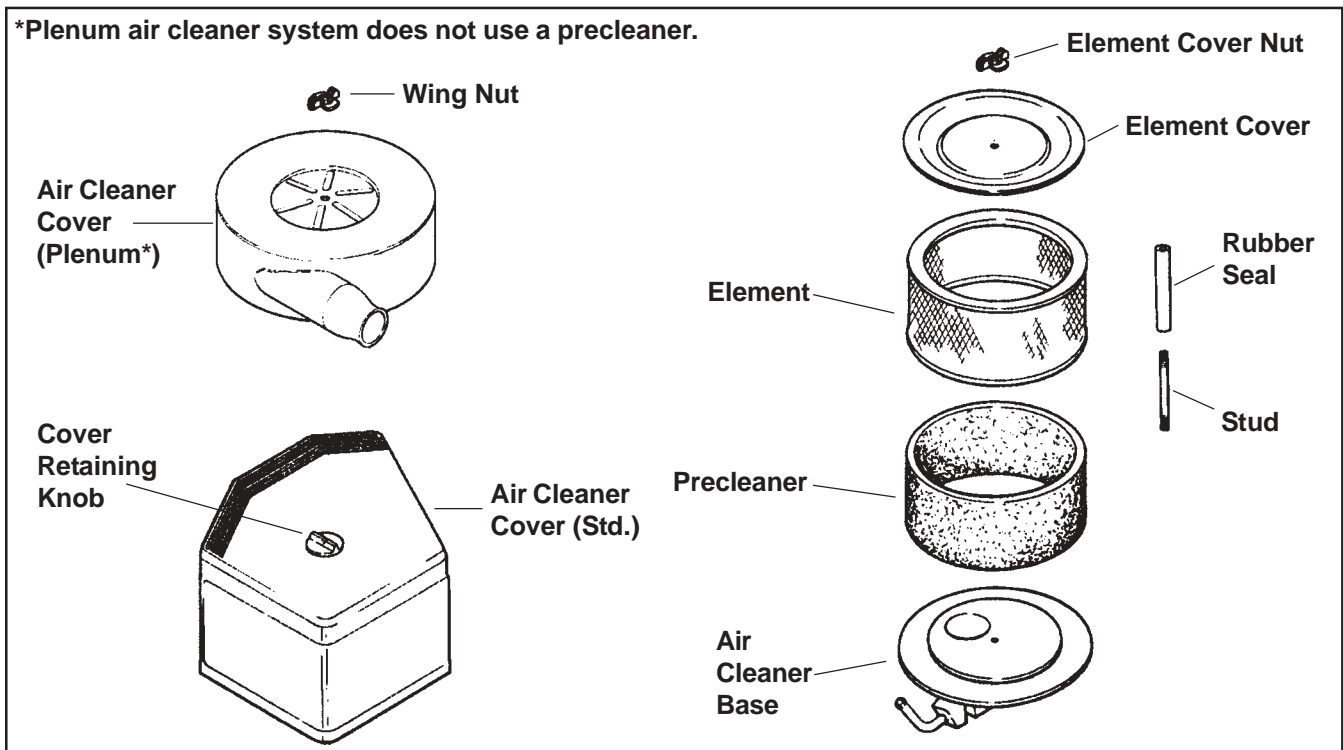

Figure 4-6. Air Cleaner System Components - Commercial Mower Type.
1. Remove the air cleaner components from the air cleaner base (see Figure 4-6).